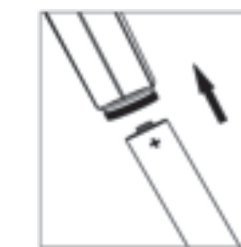

fig. 42
3. Replace with two new AA alkaline batteries. Ensure both batteries' positive ends point to the head (fig. 42).